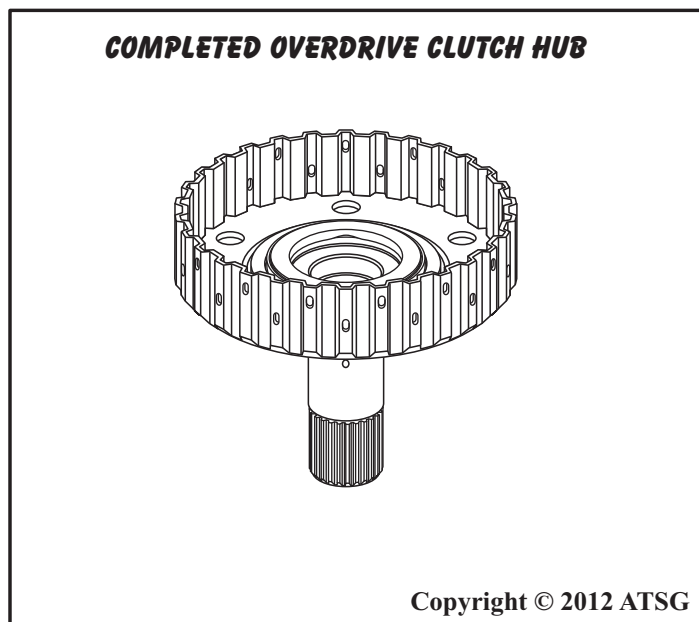

Figure 135
4. Set the completed overdrive clutch hub aside for final assembly process (See Figure 135).